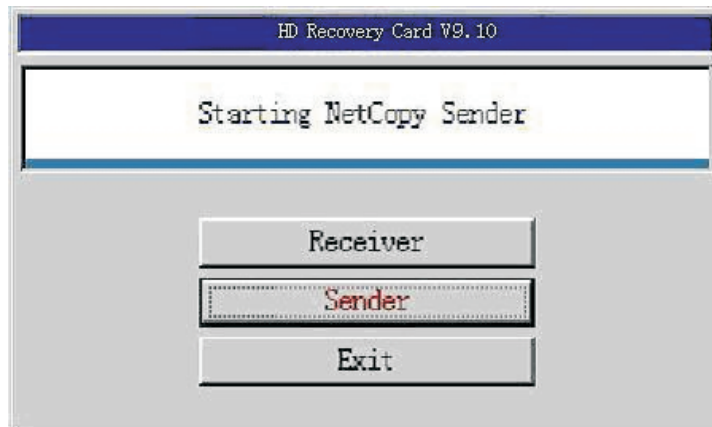

fig 6.1
Click 「 net copy 」 on the initial installation screen, or press CTRL+F10 before booting operating system after having already installed recovery card, enter initial installation screen and click 「 net copy 」, a screen will pop up, see fig. 6-1, then select “the sending end”.
- **Manual-log:** Before the sending end enters the screen of waiting for user logon, start up the machine required to receive net copy, click “net copy” on the initial installation screen, or press CTRL+F10 before booting operating system after having already installed recovery card, enter initial installation screen and click “net copy”, a screen will display, see fig. 6-1, Select “the receiving end”, then press Enter key, a screen will display, see fig. 6-4. At this time, manual-log is completed.